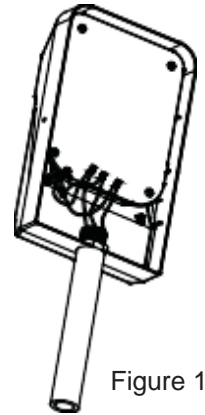

Figure 11
8. Make wiring connections using UL recognized wire nuts or other approved connectors (see Figure 11). Refer to the *Wiring Diagram* to make electrical connections.